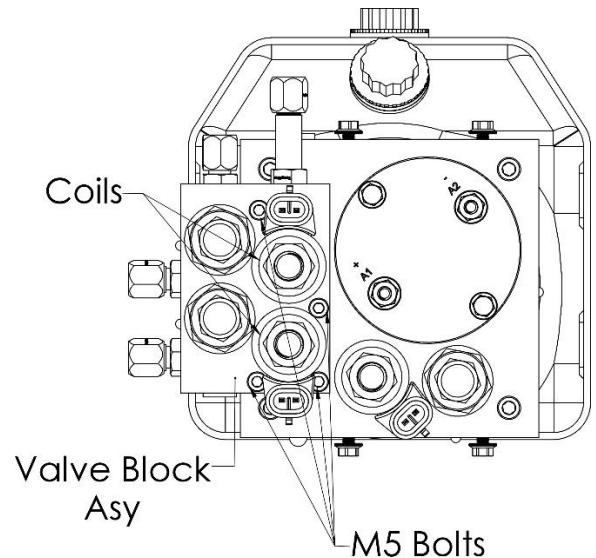

Figure 1: End View of Power Module
7. Remove and retain the two (2) Coils from the LH and RH Isolation valves. See Figure 1 for Coil identification.
8. Remove the four (4) M5 socket head screws holding the valve block to the power module assembly and retain the screws. See Figure 1 for fastener locations.